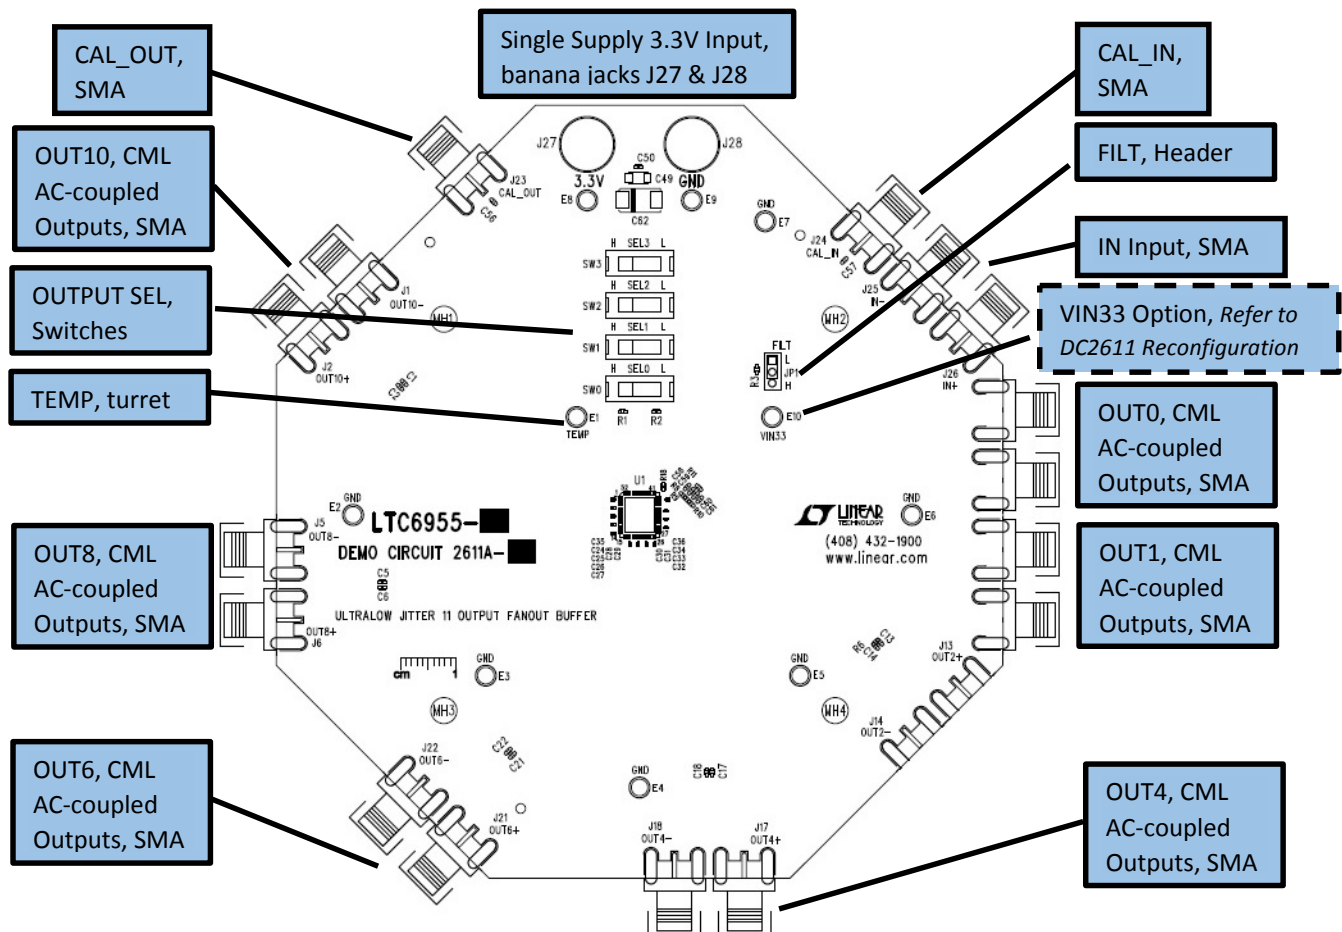

Figure 1. DC2611A Connections
1. Connect J27 and J28 to a power supply and apply power (see Figure 1 and the Typical DC2611A Requirements and Characteristics table).